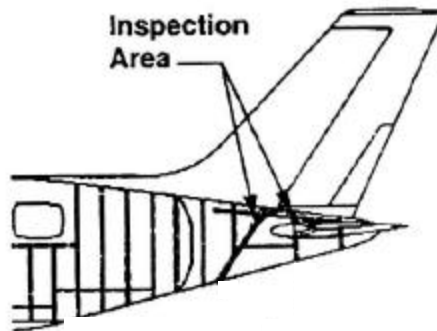

Figure 1
1. Inspect the aircraft tail cone in the area of the horizontal stabilizer (See Figure 1) for "working" rivets. These can usually be identified by cracked paint around the rivet heads and/or trailing dark smear markings. If working rivets are identified, replace as necessary.